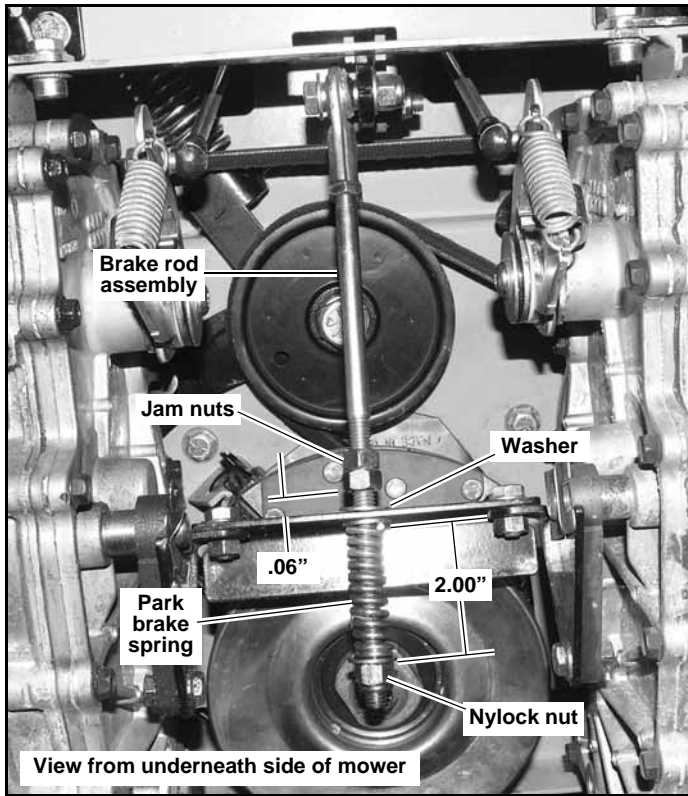

Figure 4-4
5. Measure the park brake spring. It should be compressed to the 2.00". If it is not adjust the nylock nut until the proper spring compression is achieved. Figure 4-4